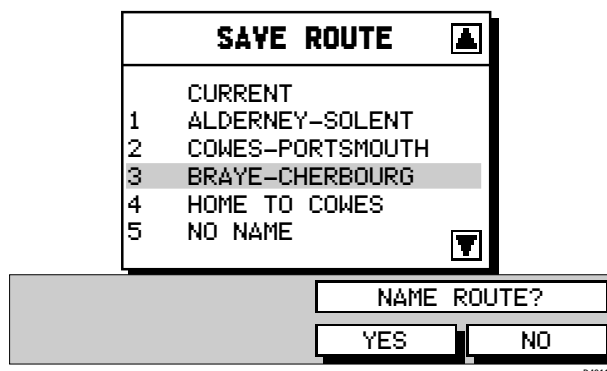

Figure 3-31: Save Route Soft Keys
2. Press the **SAVE ROUTE** soft key. The Save Route List and the **NAME ROUTE** soft keys are displayed as shown in *Figure 3-31* with the next available entry on the Route List highlighted.